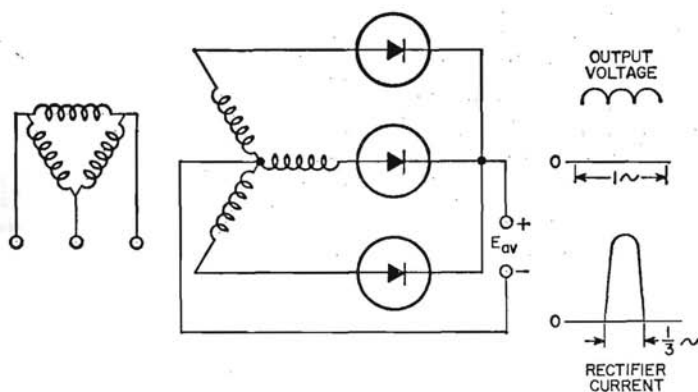
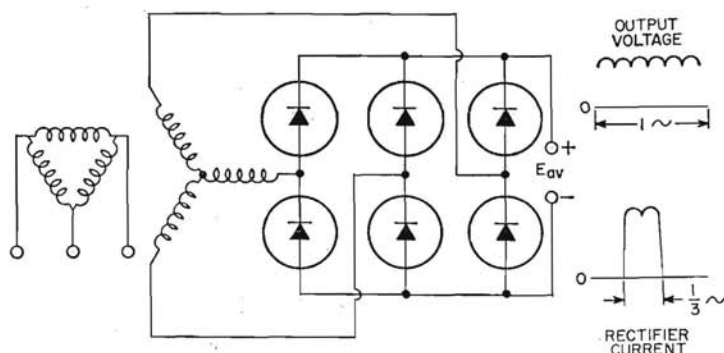
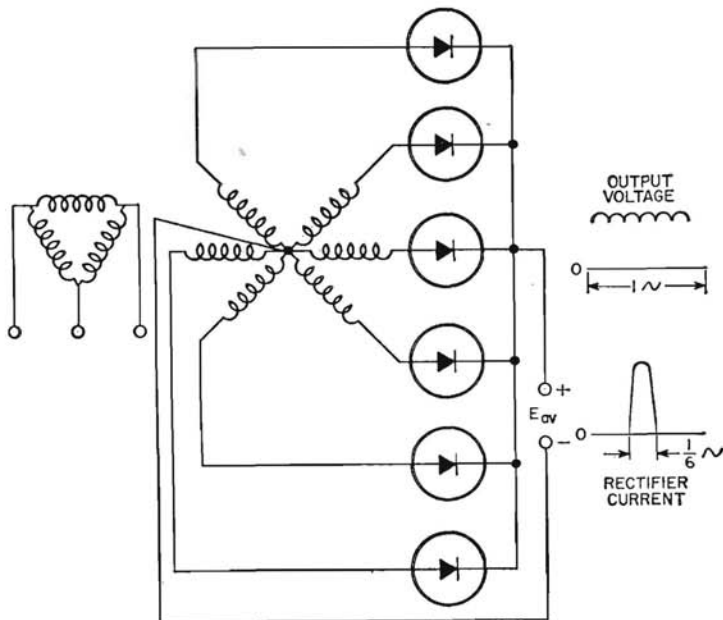
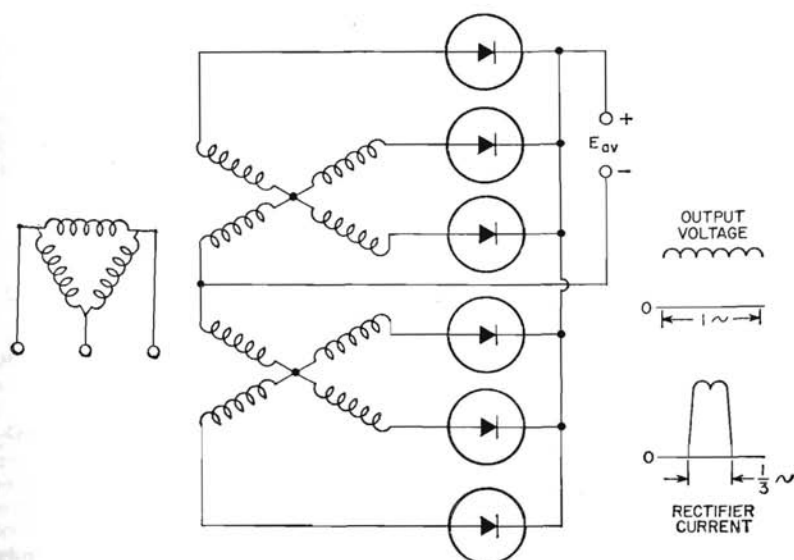

Figure 89. Three-phase (Y) half-wave circuit.
Figure 90. Three-phase (Y) full-wave bridge circuit.
Figure 91. Six-phase "star" circuit.
Figure 92. Three-phase double-Y and interphase transformer circuit.
The three-phase circuits shown in Figs. 89 through 92 are usually found in heavy industrial equipment such as high-power transmitters. The **three-phase (Y) half-wave** circuit shown in Fig. 89 uses three rectifier cells. This circuit has considerably less ripple than the circuits discussed above. In addition, it allows only one-third of the total current to flow
Fig. 90 shows a **three-phase (Y) full-wave bridge** circuit which uses a total of six rectifier cells. In this arrangement, two half-wave rectifiers are connected in series across each leg of a high-voltage transformer. This circuit delivers twice as much voltage output as the circuit of Fig. 89 for the same voltage condi-
tions. In addition, this circuit, as well as those shown in Figs. 91 and 92, has an extremely small percentage of ripple and a very low ratio of peak-to-average voltage.
The six-phase "star" circuit shown in Fig. 91, which also uses six rectifier cells, allows the least amount of the total current (one-sixth) to flow through each cell. The three-phase double-Y and interphase transformer circuit shown in Fig. 92 uses six half-wave rectifiers in parallel. This arrangement delivers six current pulses per cycle and twice as much output current as the circuit shown in Fig. 89.